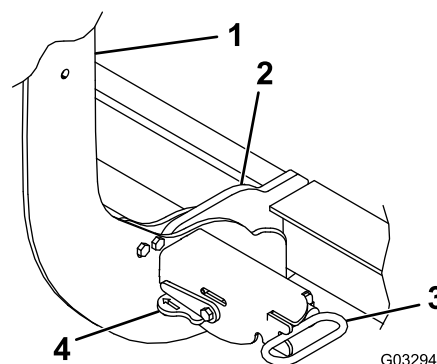

Figure 26
3. Turn the levers on the couplers to the ON position (Figure 26).
6. Ensure that both coupler spring pins have fully engaged the coupler (Figure 26).